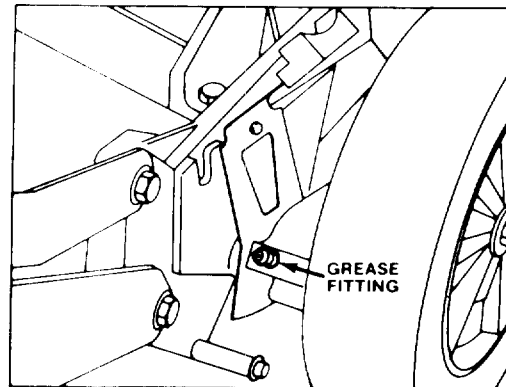

Figure 19
**2.** Move rear wheel height-of-cut levers to "C" setting. Wipe grease fittings with clean rag (Fig. 19). Install grease gun onto fitting and gently apply two or three pumps of #2 Multi-Purpose Lithium Base Grease.